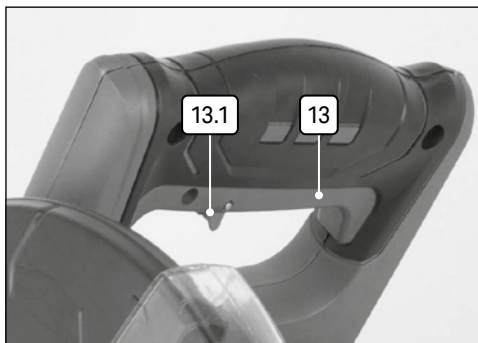

Fig. 21
7.1 Starting the Mitre Saw – Fig.21